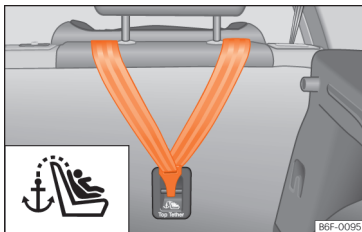

Fig. 38 Rear part of the rear seats: securing rings for the Top Tether belt.
located on the rear of the rear seat backrest (identified with the symbol ) and provides better retention >>> **Fig. 38**.
- Slide the belt and secure it properly with the anchor on the rear seat backrest >>> **Fig. 38**.